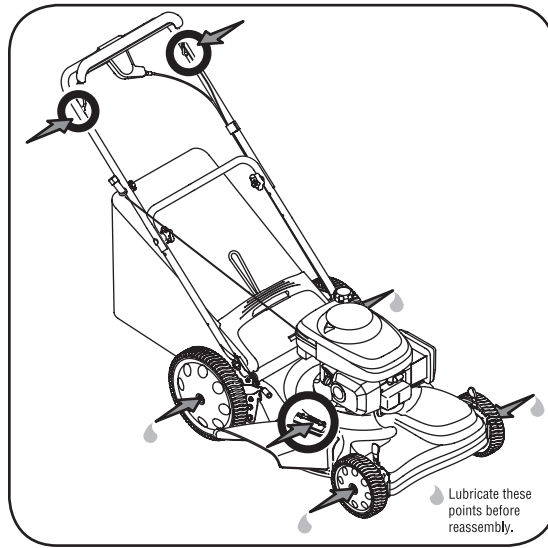

Figure 3
- Lubricate pivot points on the blade control handle at least once a season with light oil. The blade control must operate freely in both directions. See Figure 3.
- Lubricate the wheels at least once a season with light oil (or motor oil). If wheels are removed for any reason, lubricate surface of the pivot arm and inner surface of the wheel with light oil. See Figure 3.
- Lubricate the torsion spring and pivot point on the rear discharge door periodically with light oil to prevent rust. See Figure 3.